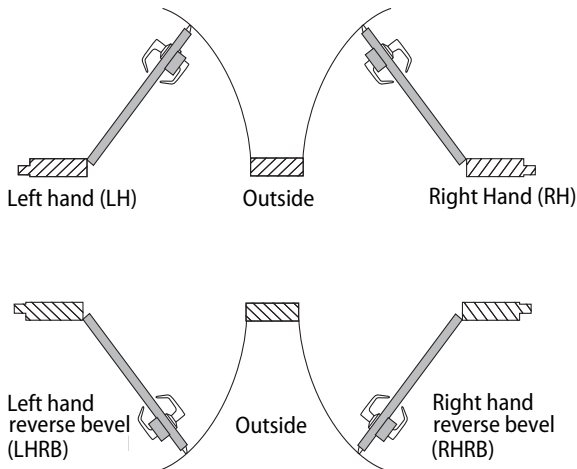

Figure 2 Door handing chart
**Note 1:** If the door is a LH or RH door, mark the inside of the door. If the door is a LHRB or RHRB door, mark the outside of the door. See Figure 2.
**Note:** This is required only if the lock hand does not meet your application. The lockset is normally preset for a right-hand door. Verify the handing of the lock per Figure 2 and, if required, change the handing of the lock.